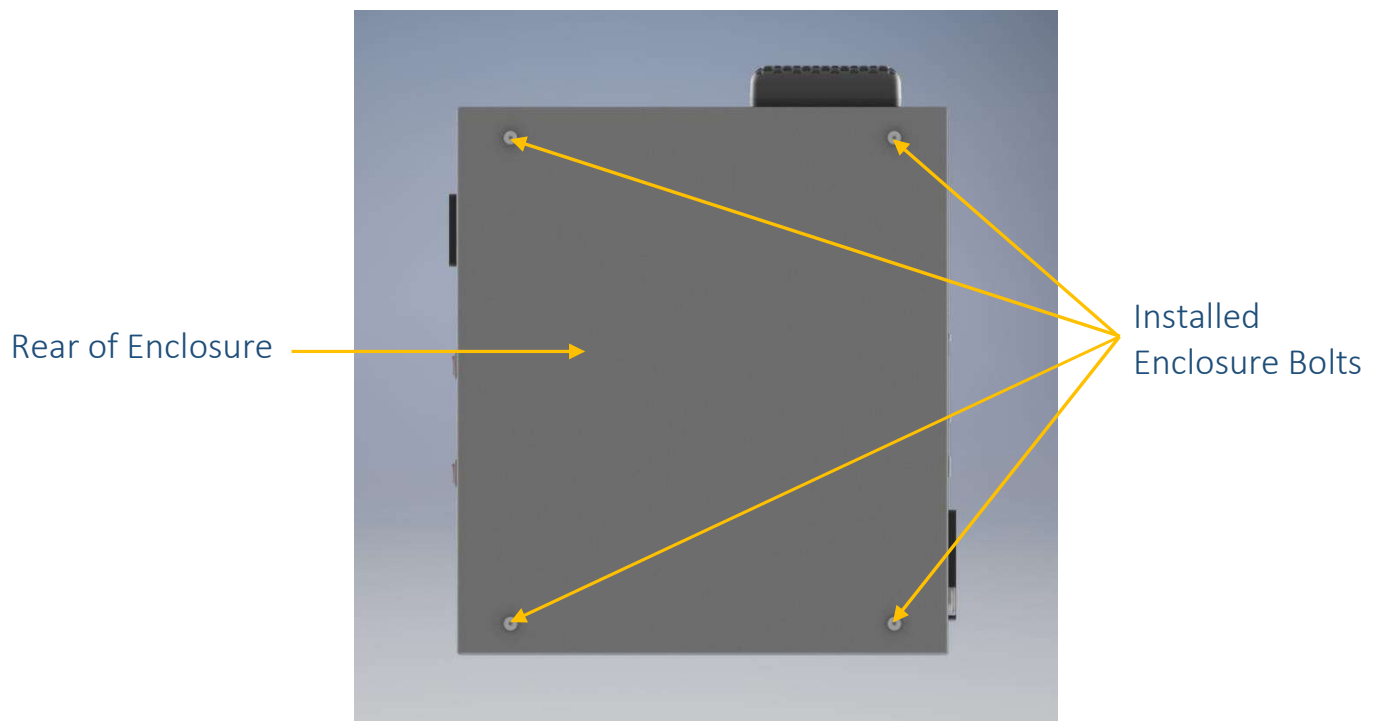

Fig 4
10. Hang the PA2400 on the wall mount bracket by lining up the four enclosure bolts with the mounting holes in the bracket as shown in figures 4 and 5.